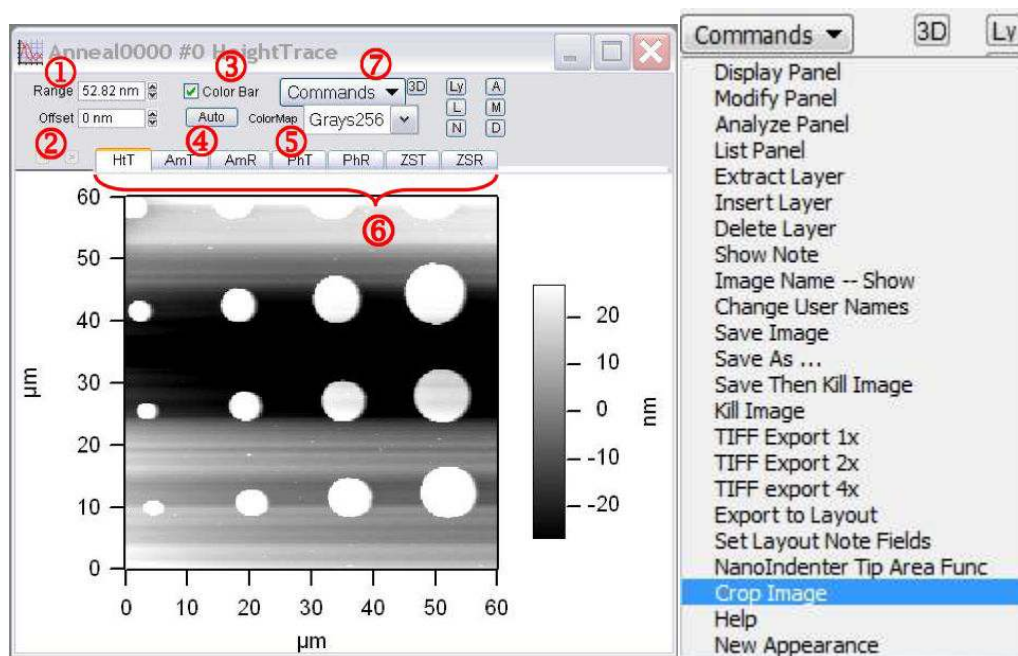

Figure 1.3.: The Main Image Display Panel
Figure 1.3 on page 9 shows an example of a Display Window image that will be used throughout this section. Some of the controls at the top of this window are as follows:
**7. Command Functions** The *Commands* pull-down menu (Figure 1.3 on page 9) offers a large variety of functions, most of which are described below. Some of the more frequently used functions are repeated as programmable buttons to the right of the *Commands* pull-down menu. The default buttons are shown in the margin next to the relevant command.